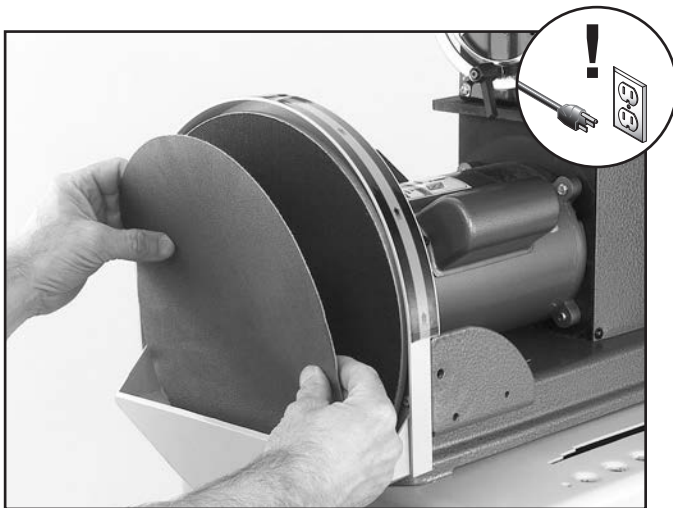

Figure 13. Installing PSA sanding disc.
4. Install the new sanding disc as shown in **Figure 13**.